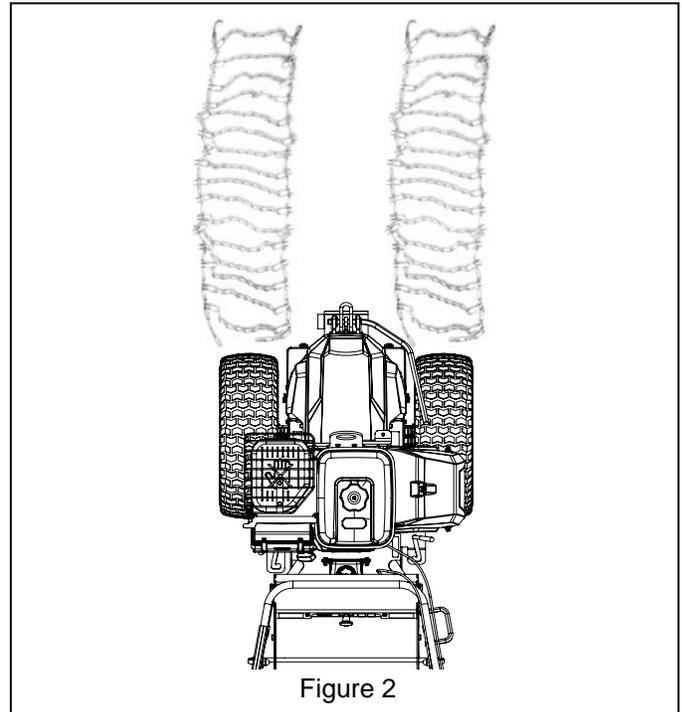

Figure 2
3. Place both tire chains (Item 1) on the ground and remove all twists and tangles. Position chains in front of unit with chains centered to tires. See Figure 2.